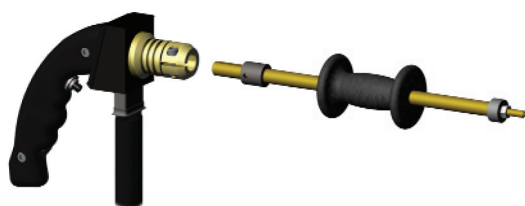

Figure 6.18
4. Fit Single-Sided gun with the spot hammer (fig. 6.18).